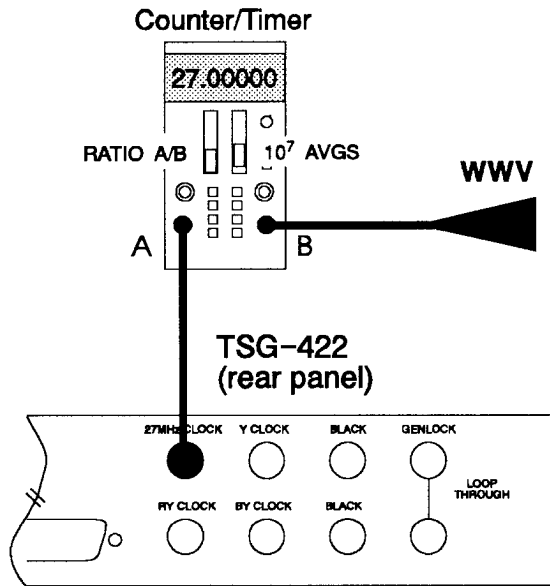

Fig. 5-2. Setup to check the 27 MHz CLOCK's frequency.
- Connect the equipment as shown in Fig. 5-2.